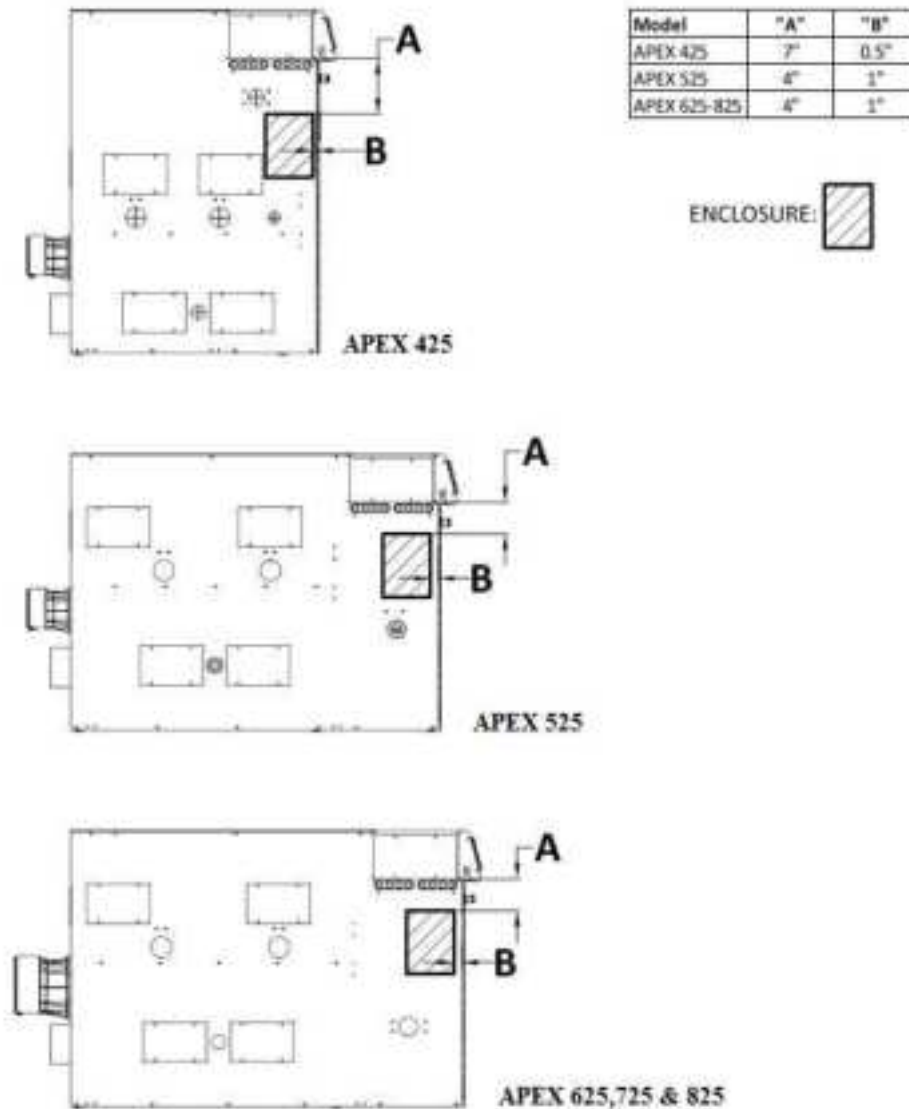

Figure 7: Enclosure Mounting Locations
4. Mount Eco-Propel Control enclosure in the location specified in figure 7.